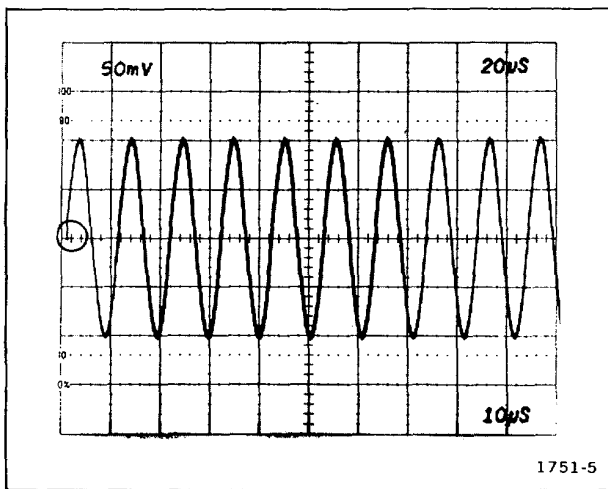

Fig. 5-5. DC balance (Circle denotes correct trigger point)
b. Adjust-Int DC Bal, R75, for a sweep trigger point at graticule centerline (TRIG'D light on). See Fig. 5-5 for reference.
b. Adjust-Ext DC Bal, R99, for a sweep trigger point at graticule centerline (TRIG'D light on). See Fig. 5-5 for reference.
f. Adjust-Int DC Bal, R255, for a sweep trigger point at graticule centerline (TRIG'D light on). See Fig. 5-5 for reference.
b. Adjust-Ext DC Bal, R230, for a sweep trigger point at graticule centerline (TRIG'D light on). See Fig. 5-5 for reference.